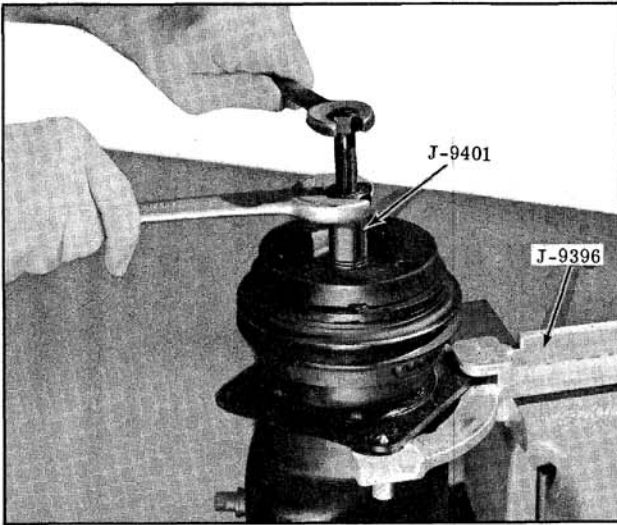

Fig. 14-82 Removing Driven Plate
2. Install Puller J-9401 into hub of driven plate. Hold main body of tool and turn forcing screw clockwise to remove driven plate. (Fig. 14-82)